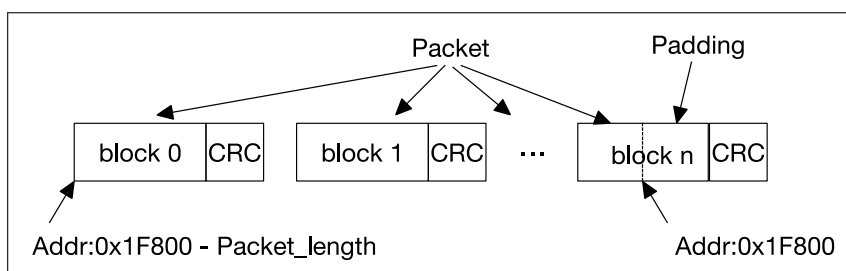

Figure 33-8. Data Flow of Sending Incremental-address Packets From Host to Slave
- For incremental-address packets, the slave determines valid data based on the address. The data with the address greater than or equal to 0x1F800 is considered as invalid data and will be discarded. Therefore, the host should set the CMD53 start address field to 0x1F800 – Packet_length (unit: byte). The data flow of incremental-address packets on SDIO bus is shown in Figure 33-8.